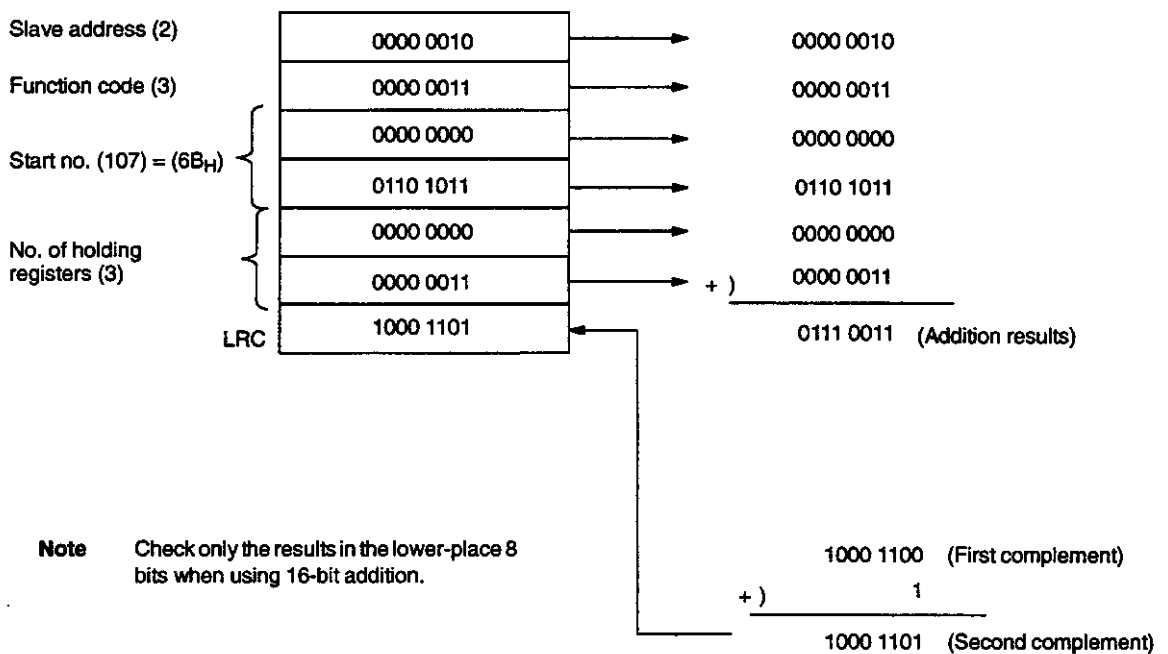

Figure 6.11 Example of an LRC Calculation
- 3) *Figure 6.11* shows an example of an LRC7 calculation using the query message from the previous item. (See *Figure 6.9*.)